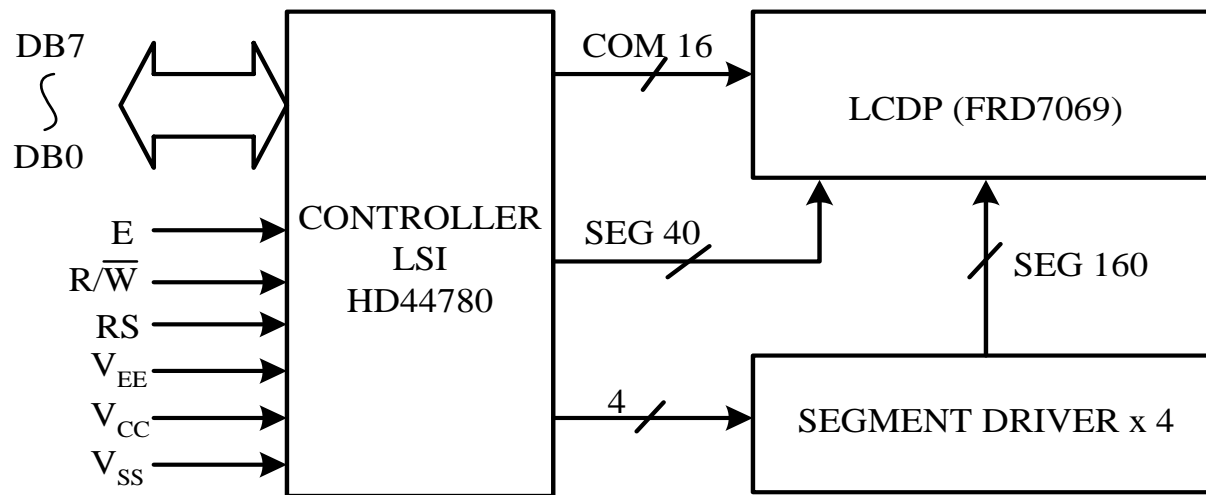

Figure 7.35 Block diagram of a HD44780-based LCD kit
- Uses the HD44780 as the controller as shown in Figure 7.35.
- The RS signal selects instruction register (0) or data register (1).